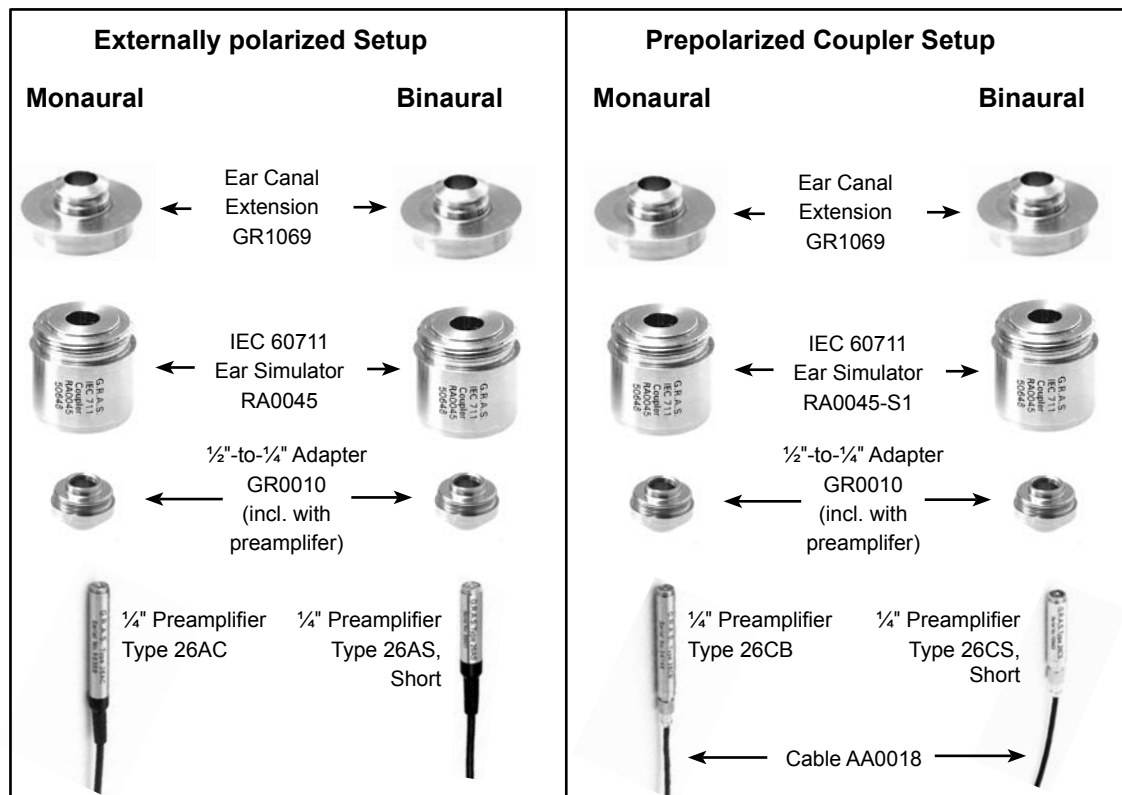

Fig. 6.1 Assembly details
- The parts shown in one of the three assembly options (Fig. 6.1)
Assemble the parts - four options shown in Fig. 6.1.